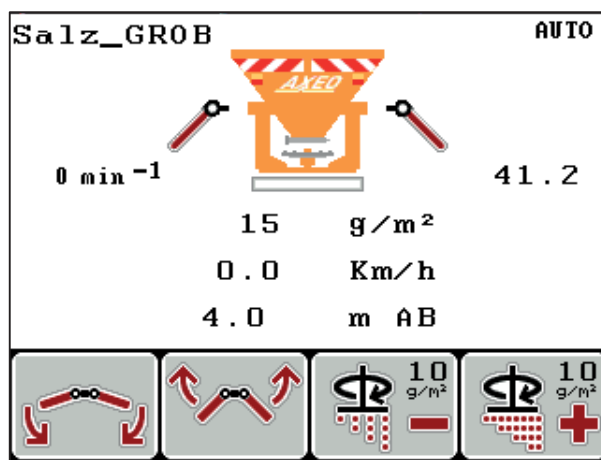

Figure 5.5: Symmetrical spreading pattern
3. Press **L/R** until both sides can be adjusted simultaneously (refer to figure 5.5)
The symmetrical spreading pattern is active as soon as both sides can be adjusted simultaneously (refer to figure 5.5) and the actuators are set to one of the limit stops (bottom or top).